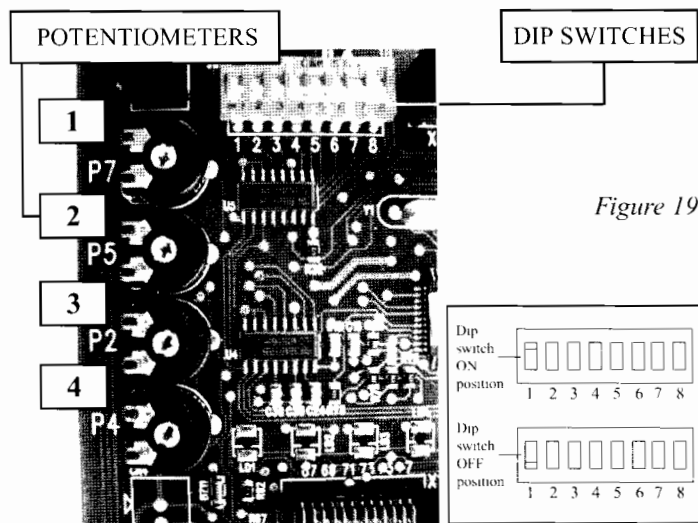

Figure 19
The potentiometers can easily be accessed by removing the cover on the rear of control panel (*Figure 19*). However, to reach the dip switches, the control panel must be opened.
15.4 Setting the 45 seconds delay: The boiler is factory set to exclude the delay of 45 seconds before re-ignition between the closing of a hot water tap and CH start-up. This delay can be set to 45 seconds by setting dip switch '3' (*figure 19*) into the OFF position.
15.5 255 seconds delay setting: The boiler is capable of up to 255 seconds ignition delay (anti cycling time) before re-ignition following burner shut down on the primary hydraulic water reaching its set temperature. This delay can be increased up to a maximum of 255 seconds by turning potentiometer P5 (*Figure 19*) clockwise.
15.6 Pump working mode setting: The boiler has a factory set to operate the pump for pre-purge and post-purge times (45 sec.). This delay can be excluded by fitting dipswitch '2' (*figure 19*) into ON position. However, this may then cause the boiler over-heat thermostat to trip out.
15.7 Setting the Heating output: The Vizo 24 & 28 boilers are factory set to give maximum c/heating output. The maximum and minimum heat output for heating and domestic hot water is pre-set on potentiometers P2 & P4 (*figure 19*). It is not necessary to make further adjustments.